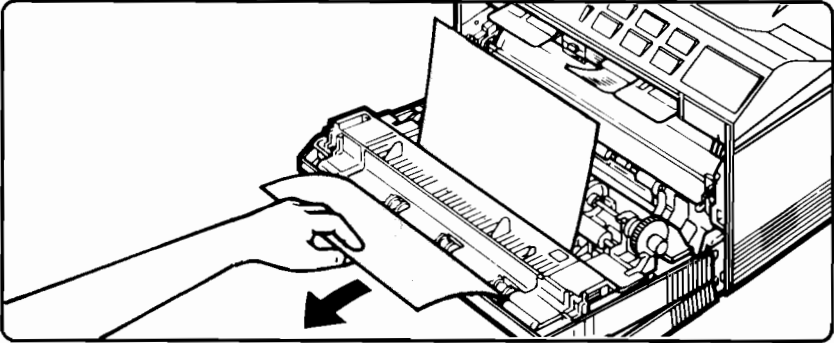

Figure 4-13. Clearing the Fusing Assembly Area
2. If paper jams in the fusing area only, open the printer and remove the jammed paper by pulling it firmly through the fuser (see Figure 4-13). **WARNING: FUSING ROLLERS ARE HOT!**